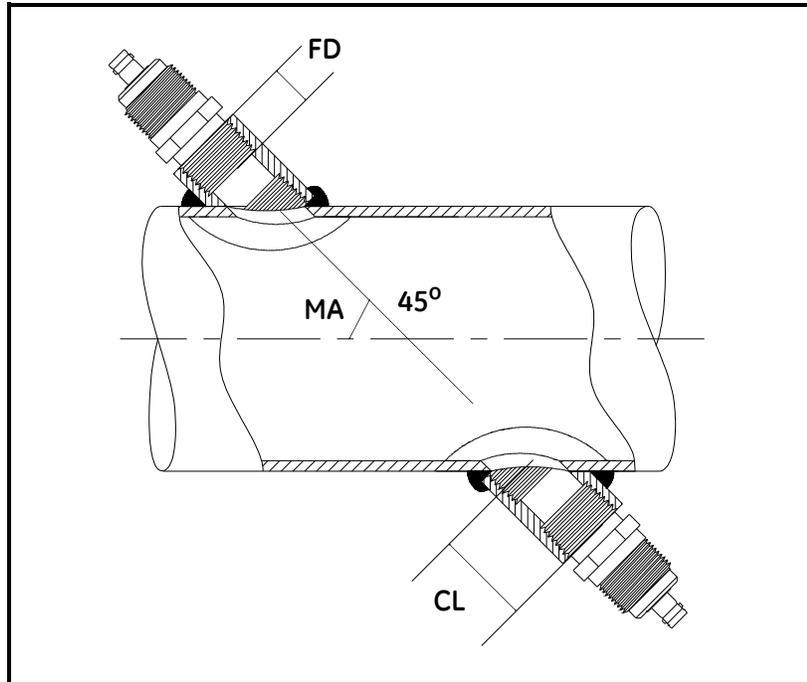

Figure 23: Determining the Pipe Coupling Length
- the pipe inside diameter (ID)
- the wall thickness (WT)
- the installed pipe coupling length (CL)
- the transducers face depth (FD)
- the mounting angle (MA)
Use Figure 23 below to properly measure the coupling length. Typically, the transducer face is positioned just outside the inside diameter (ID) of the pipe, or slightly retracted inside the coupling.